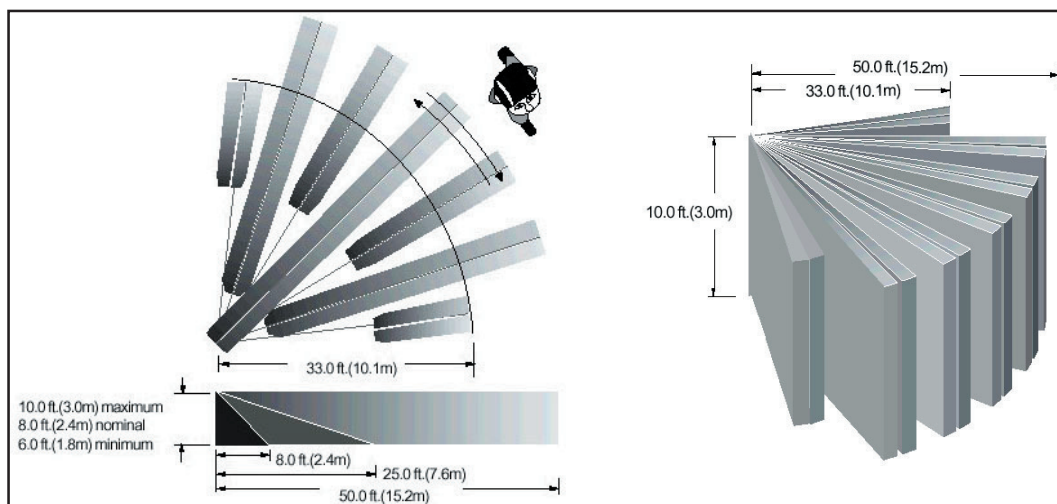

Figure 2: Detection Pattern
- So the expected intruder movement is across the detection pattern fields, see Figure 2